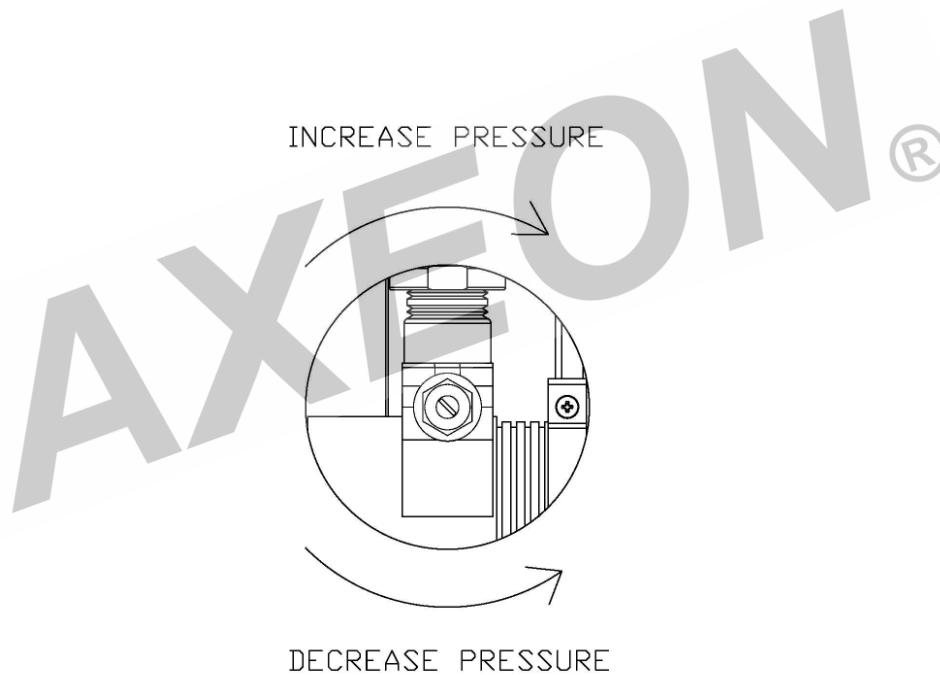

FIGURE 3
5. Turn the RO system on #6 and adjust the concentrate (waste) valve #8, recycle valve # 7 (if applicable), and the bypass screw on the pump to the designed flow and pressure. (Figure 3, Page 25)
Use a fat screw driver to increase or decrease the pressure to the bypass valve. To increase the pressure, turn the screw clockwise. To decrease the pressure, turn the screw counter clockwise. (See Figure 3, Page 25)